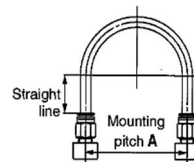

Figure 1 Recommended piping
(1) When connecting piping to the One-touch fitting, use a pipe length with sufficient margin, in accordance with the piping conditions shown in Figure 1.